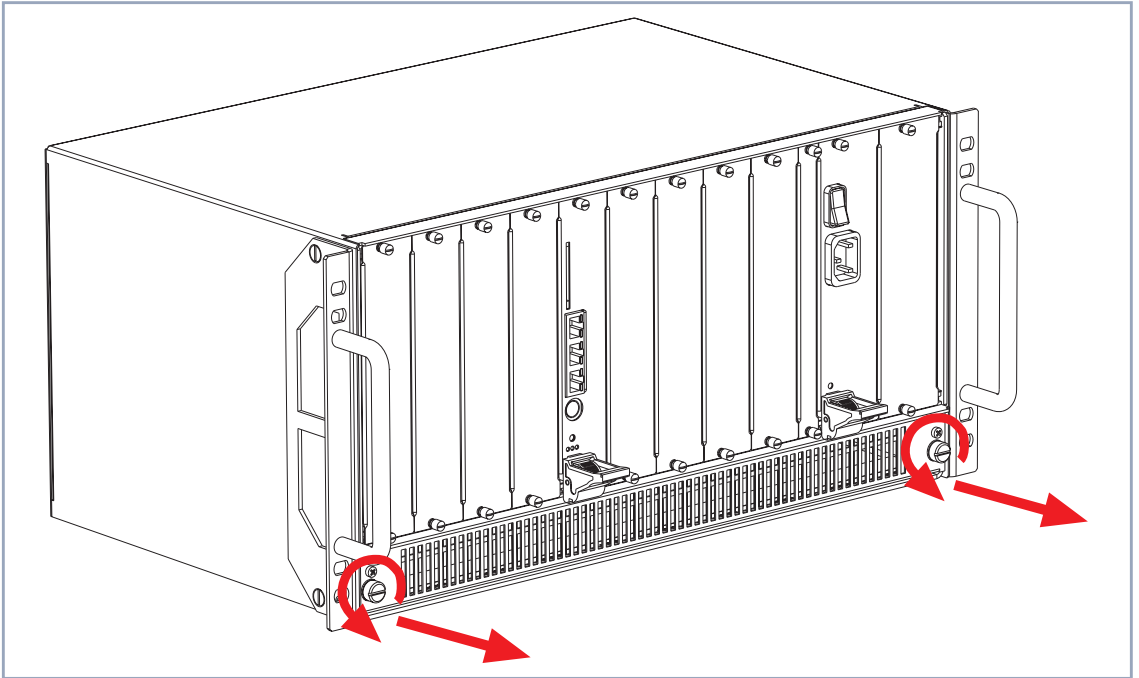

Figure 4-10: Loosening the screws and removing the fan cassette
- Loosen the two screws of the fan cassette by turning the screws to the left until they pop out of their position, see figure 4-10, page 47.